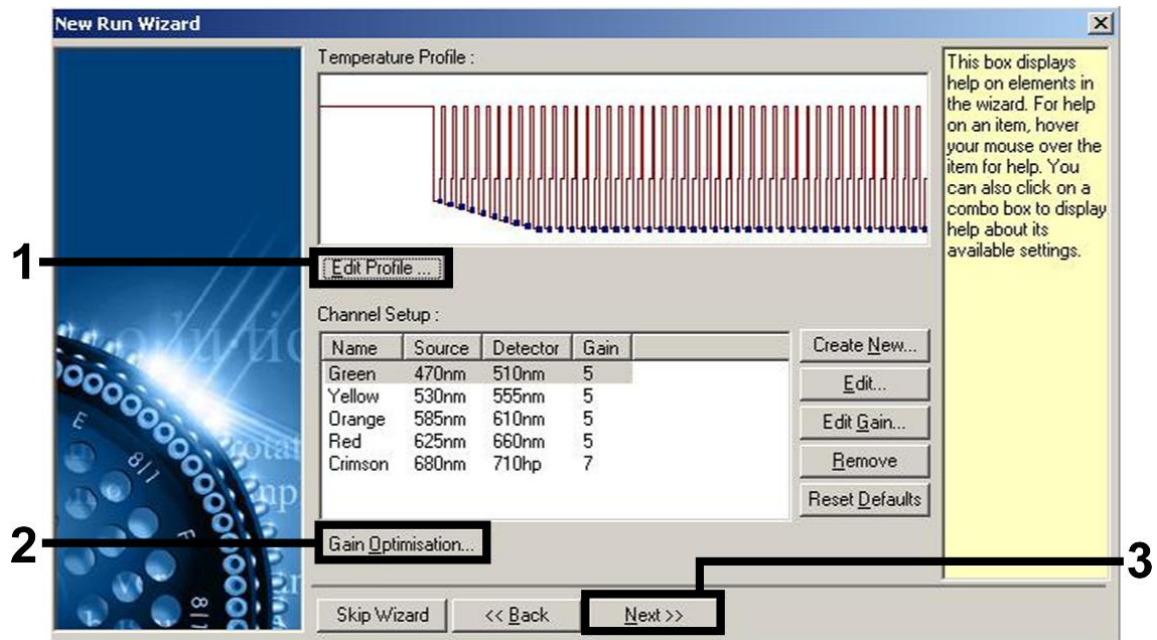
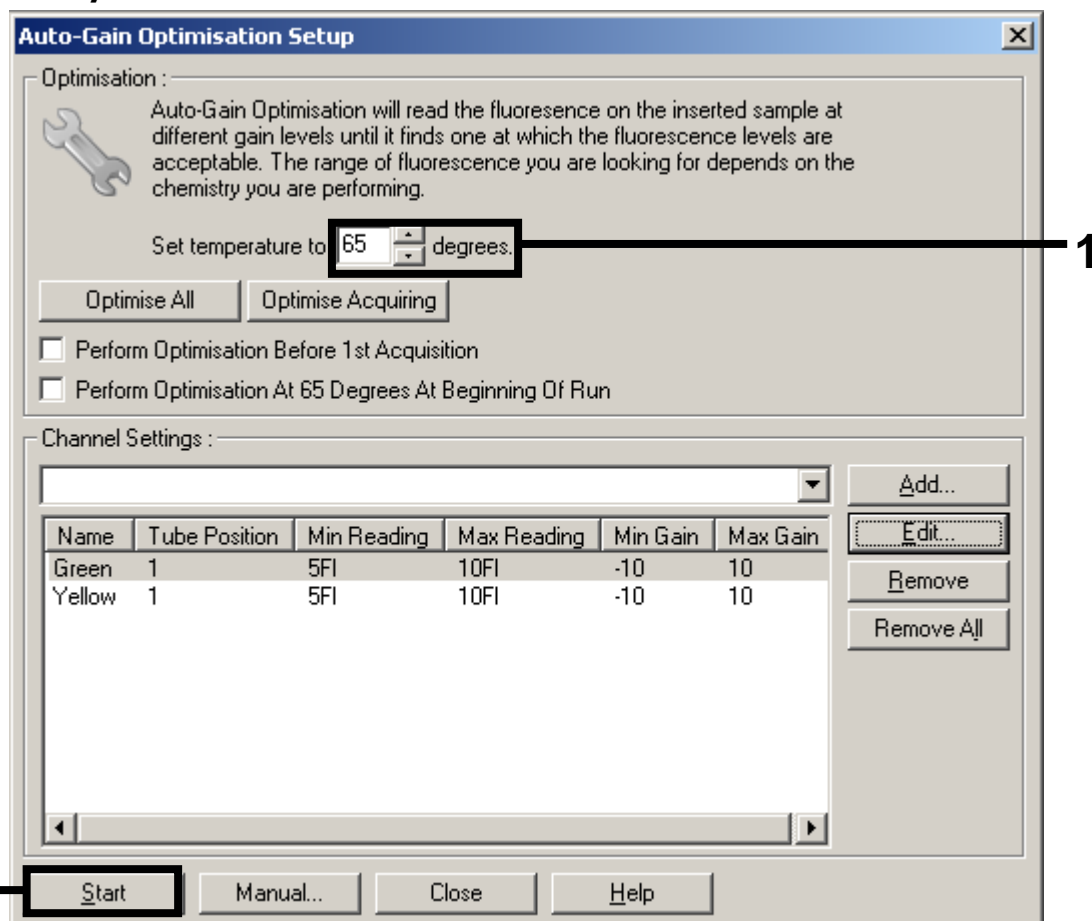

Figure 7. Editing the profile.
Figure 10. Adjusting the fluorescence channel sensitivity.
Adjusting the fluorescence channel sensitivity	Figures 10–16
- Click the “Edit Profile” button in the next “New Run Wizard” dialog box (Figure 7), and program the temperature profile as shown in Figures 7–9).
7. The detection range of the fluorescence channels has to be determined according to the fluorescence intensities in the PCR tubes. Click "Gain Optimisation" in the "New Run Wizard" dialog box (see Figure 7) to open the "Auto-Gain Optimisation Setup" dialog box. Set the calibration temperature to 65 to match the annealing temperature of the amplification program (Figure 10).
8. If you are performing assay setup for a single assay, click "Start" (Figure 10) and proceed directly to step 16, page 46. For a multi-assay run where both CMV and EBV will be assayed in the same PCR, proceed to step 9 to adjust the fluorescence channel intensities manually.